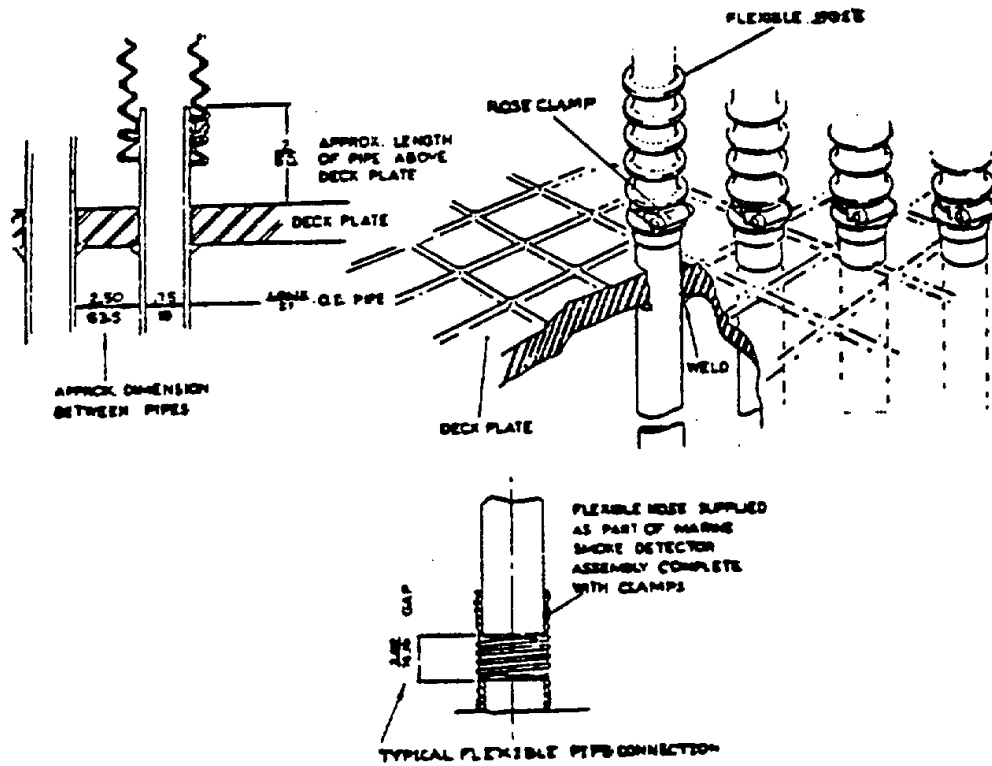

Figure 4-6. Flexible Hose Connections, SKB-148126
- 4.13 Where detection system piping penetrates decks and bulkheads, they must be welded as shown in Figure 4-6.